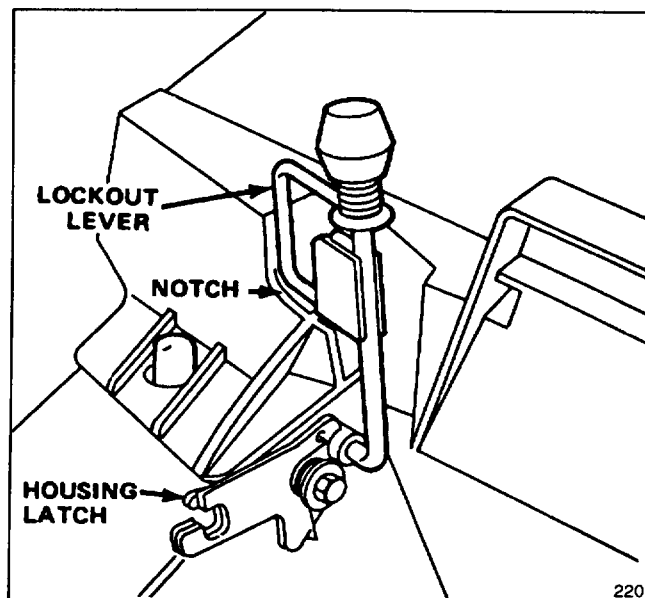

Figure 6
3. Squeeze lockout lever until it clears the housing latch (Fig. 6). Then move handle rearward until lockout lever locks in notch at rear of bag door (Fig. 6). The chute door in mower housing is now open and mower is ready to bag grass clippings.